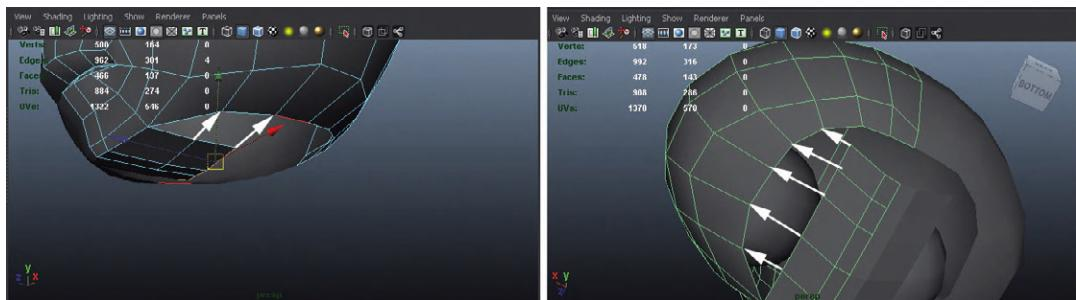

FIG. 4.43 Beginning to extrude to complete the bottom of the head.
Step 61: Begin to close off the bottom of the head by extruding the chin edges toward the back of the head. Notice that in Fig. 4.43, each of the extrusions corresponds to a vertex along the jaw line (and the back of the head) that this strip will need to eventually merge to.